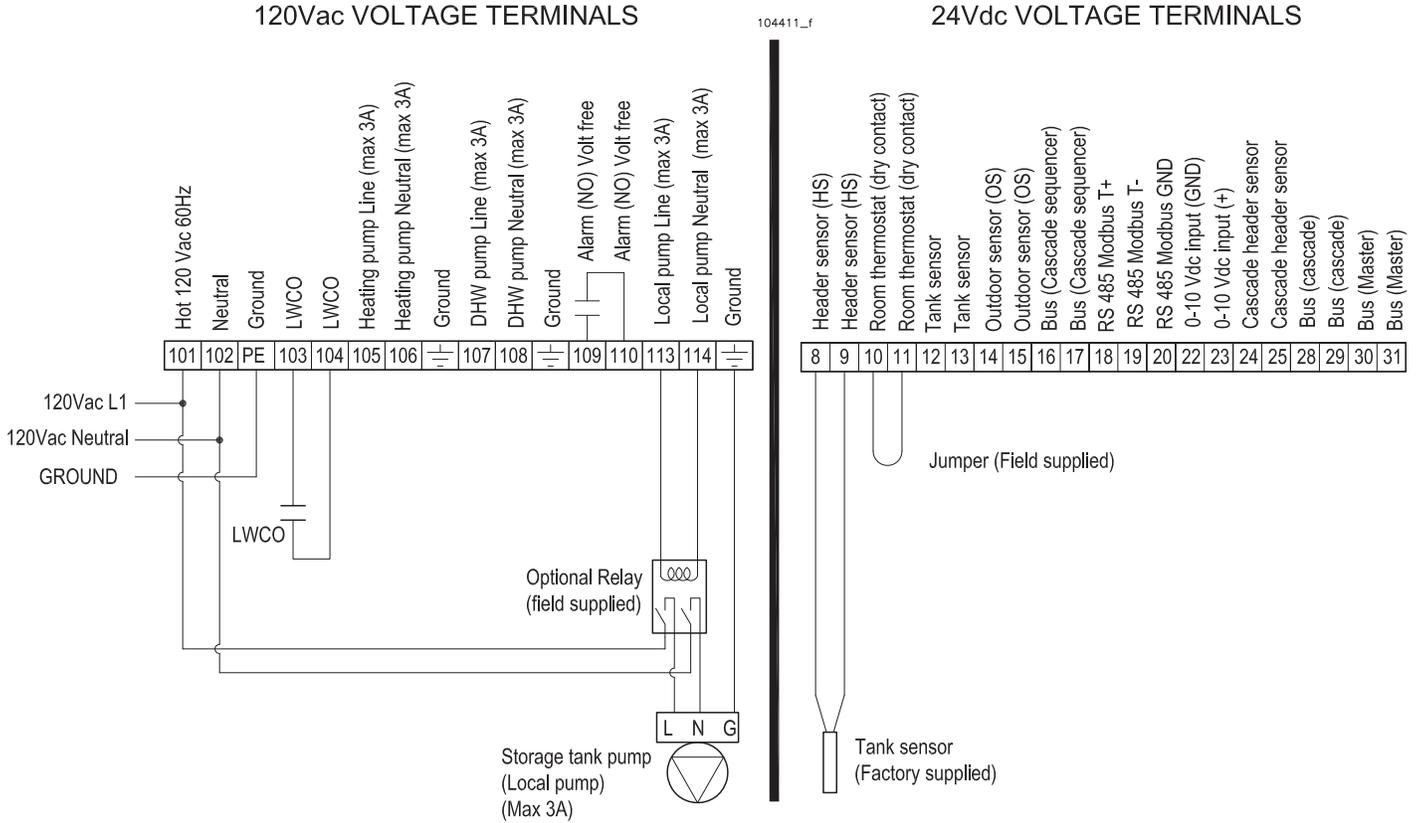

Figure 10-5 Electrical customer connection for AM - W water heaters
2. The storage tank pump (Local pump) must be connected to terminals “113” and “114” (See Figure 10-5) (a field supplied pump relay must be installed if the pump current draw is greater than 3 amps).
3. Remove header sensor present on terminals “8” and “9” of Figure 10-5;
4. The storage tank temperature sensor must be connected to terminals “8” and “9” (See Figure 10-5). The sensor must be placed into the storage tank in a way that can detect the water temperature (Follow the storage tank instruction).